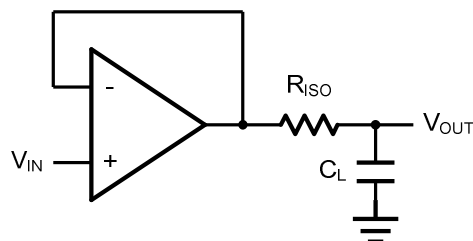
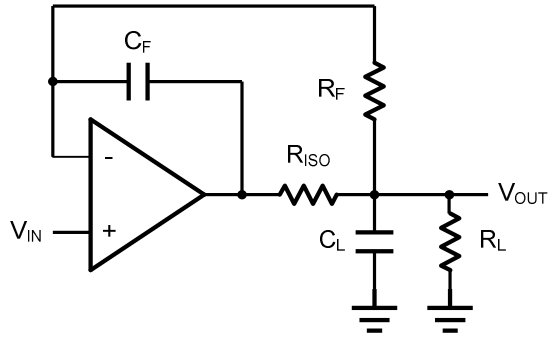

Figure 2. Indirectly Driving a Capacitive Load Using Isolation Resistor
Figure 3. Indirectly Driving a Capacitive Load with DC Accuracy
The HGV855x family is optimized for bandwidth and speed, not for driving capacitive loads. Output capacitance will create a pole in the amplifier's feedback path, leading to excessive peaking and potential oscillation. If dealing with load capacitance is a requirement of the application, the two strategies to consider are (1) using a small resistor in series with the amplifier's output and the load capacitance and (2) reducing the bandwidth of the amplifier's feedback loop by increasing the overall noise gain. Figure 2. shows a unity gain follower using the series resistor strategy. The resistor isolates the output from the capacitance and, more importantly, creates a zero in the feedback path that compensates for the pole created by the output capacitance.
The circuit in Figure 3 is an improvement to the one in Figure 2.  $R_F$  provides the DC accuracy by feed-forward the  $V_{IN}$  to  $R_L$ .  $C_F$